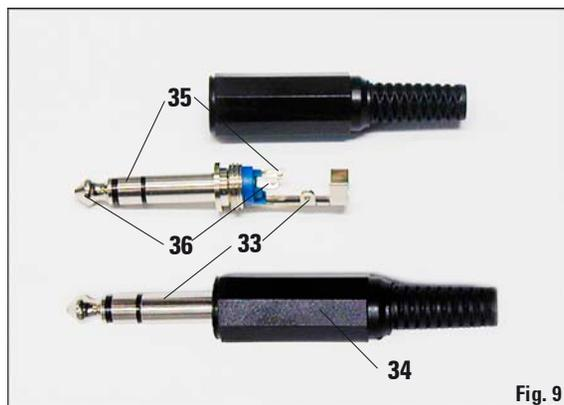

Fig. 9
Each alarm is connected to plug (34) as follows (see Fig. 9):